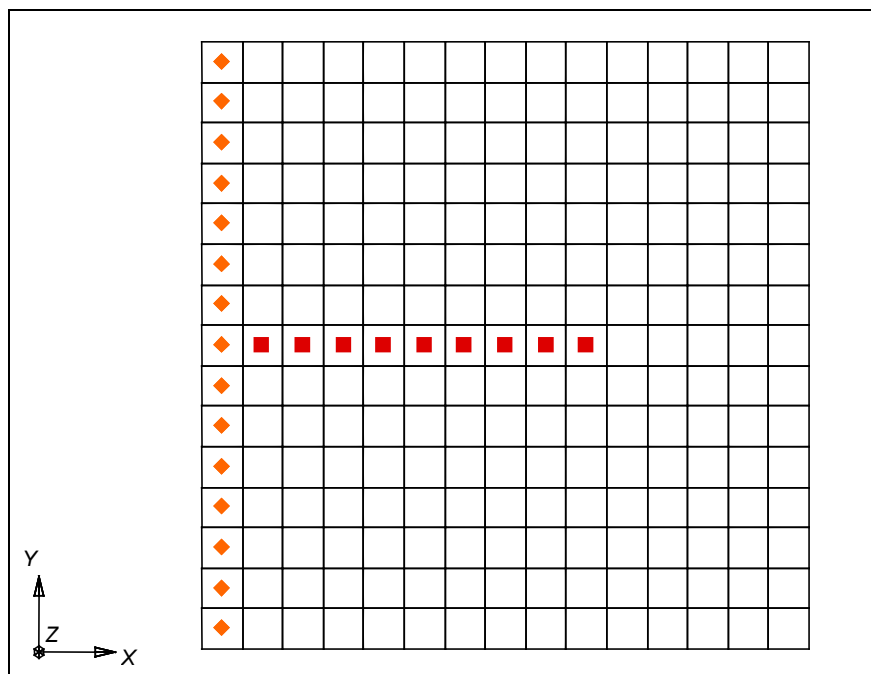

Figure 4. Cells to be selected.
4. Hold down the *Shift* key to invoke the multi-select mode and select the cells on columns 3-10 of the same row as the cell you have already selected (Figure 4).